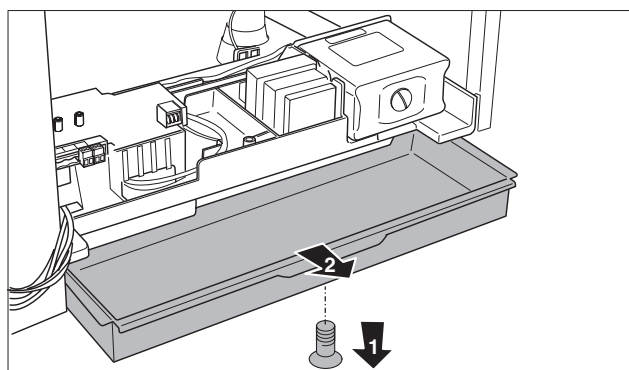

fig. 58 Opening the draw
- Loosen the screw (fig 58, step 1).
- Pull open the draw (fig 58, step 2).